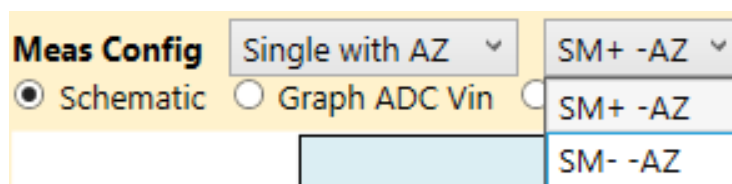

Figure 71. Meas Config: Single AZ
- Single with AZ: single measurement with AZ (see Figure 71)